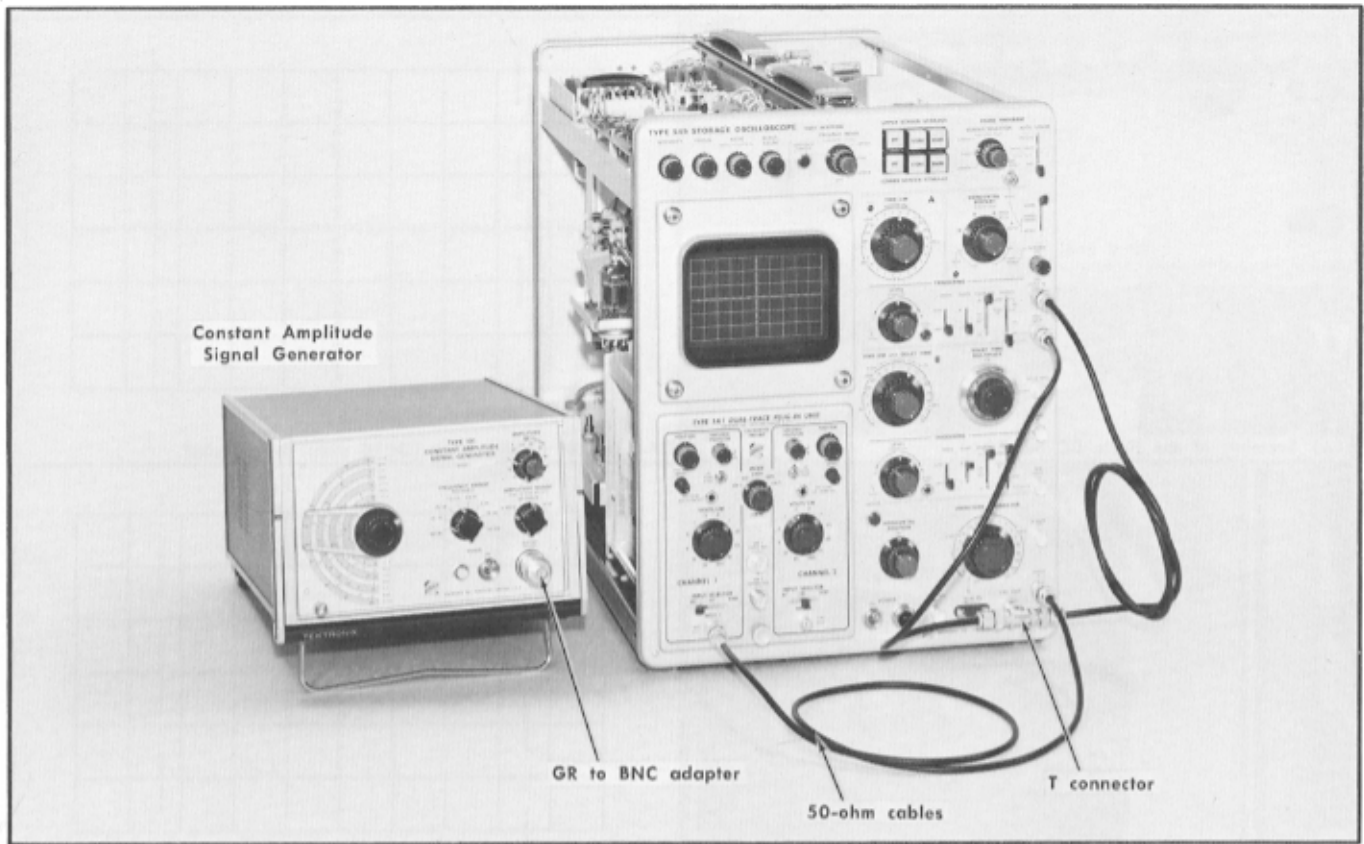

Fig. 6-41. Equipment setup for steps 48 through 51.
48. Adjust External Horizontal DC Balance ①
- a. Equipment setup is shown in Fig. 6-41.